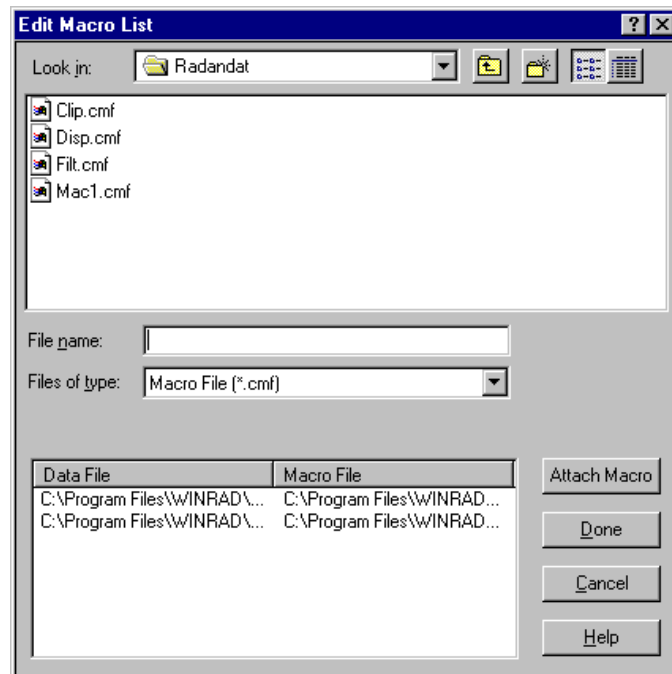

Figure 123: Edit Macro List dialog box.
- 7** The last dialog box, Edit Macro List (Figure 123), lets you select the Macro Program (or programs) needed to process your Project. You can assign macros to files individually. Click the desired macro in the macro list on top, then select the file in the file list on the bottom. Click on the Attach Macro button. Repeat this procedure until all required macros are attached.